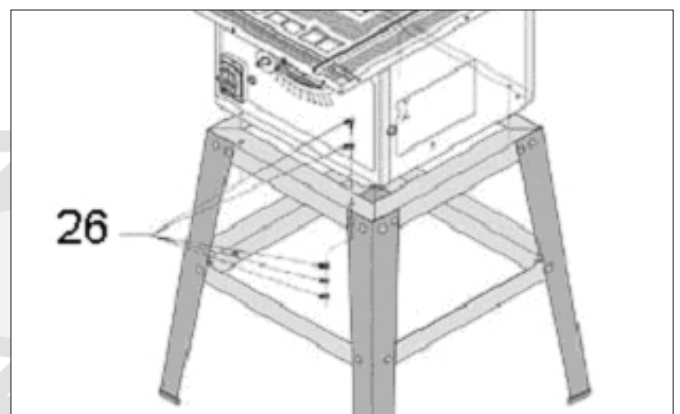

Figure 5
Position the table saw on the frame so the screw holes are lined up and secure it using screws, washers and nuts (26) as shown in figure 5.